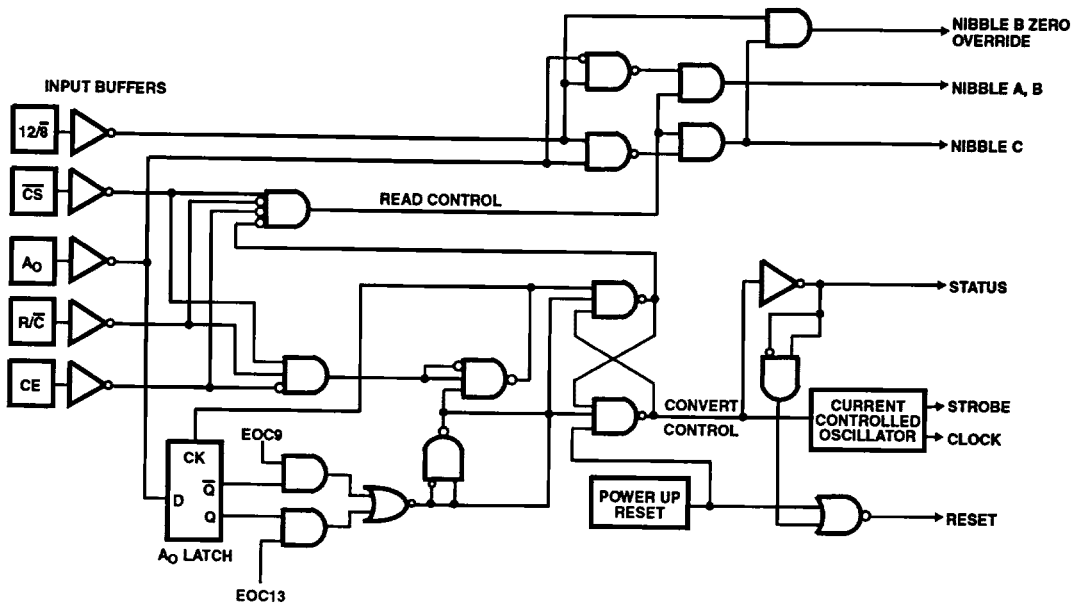

FIGURE 7. HI-774 CONTROL LOGIC
The HI-X74(A) includes logic for direct interface to most microprocessor systems. The processor may take full control of each conversion, or the converter may operate in the "stand-alone" mode, controlled only by the R/C input. Full control consists of selecting an 8 or 12 bit conversion cycle, initiating the conversion, and reading the output data when ready-choosing either 12 bits at once or 8 followed by 4, in a left-justified format. The five control inputs are all TTL/CMOS-compatible: (12/8, CS, AO, R/C and CE). Table 1 illustrates the use of these inputs in controlling the converter's operations. Also, a simplified schematic of the internal control logic is shown in Figure 7.